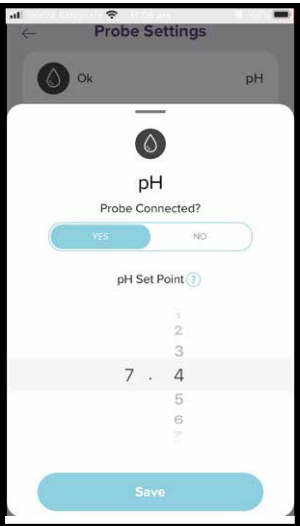

Figure 8.10
- From the pH adjustment menu, scroll up or down to edit the pH set point (refer figure 8.10);